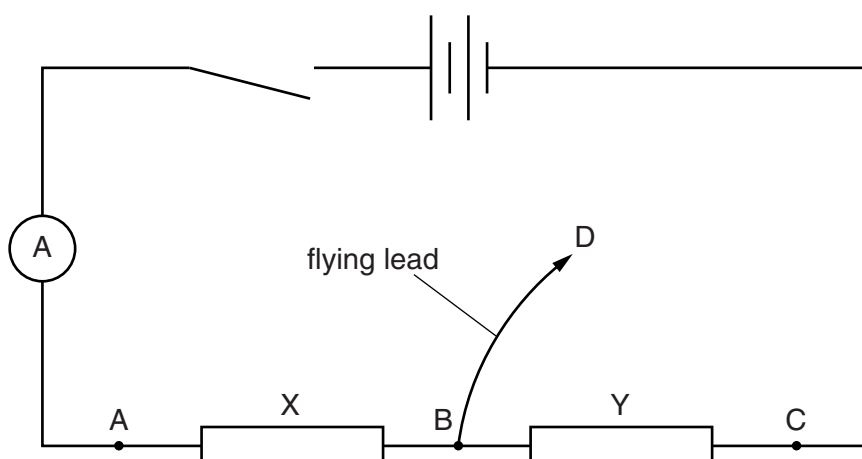

Fig. 3.1
- The Supervisor should set up the apparatus as shown in Fig. 3.1. The terminals A, B, C and D should be clearly labelled.
4. At the changeover, the apparatus should be restored to its original state as in Fig. 3.1, disconnecting end D of the flying lead from the circuit. If cells are used, they should be checked, and replaced if necessary.